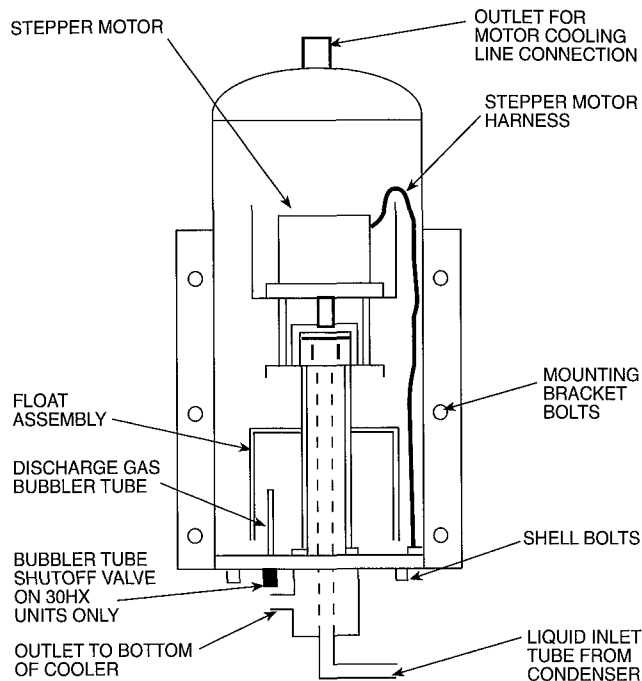

Fig. 13 — 30GX/HX Cutaway View of Economizer Assembly
INSPECTING/OPENING ECONOMIZERS — To check the physical operation of an economizer (see Fig. 13), the following steps must be performed:
- a. Verify that float assembly (see cross section view in Fig. 13) moves up and down freely. It should take only a minimal force (less than one pound) to move the float and there should be no binding.